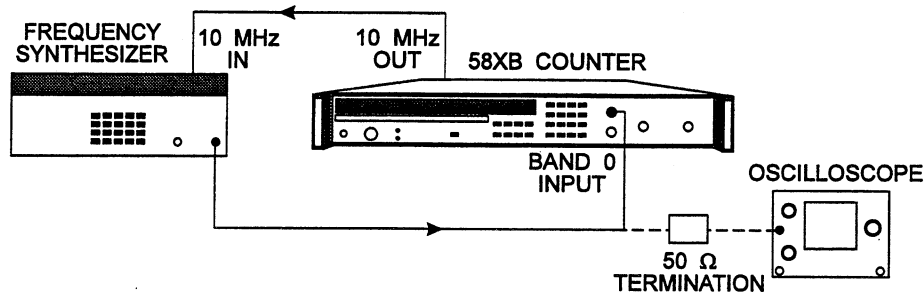

Figure 5-2. Band 0 Range and Sensitivity Test Setup (100 Hz to 10 MHz).
1. Connect equipment as shown in Figure 5-2.